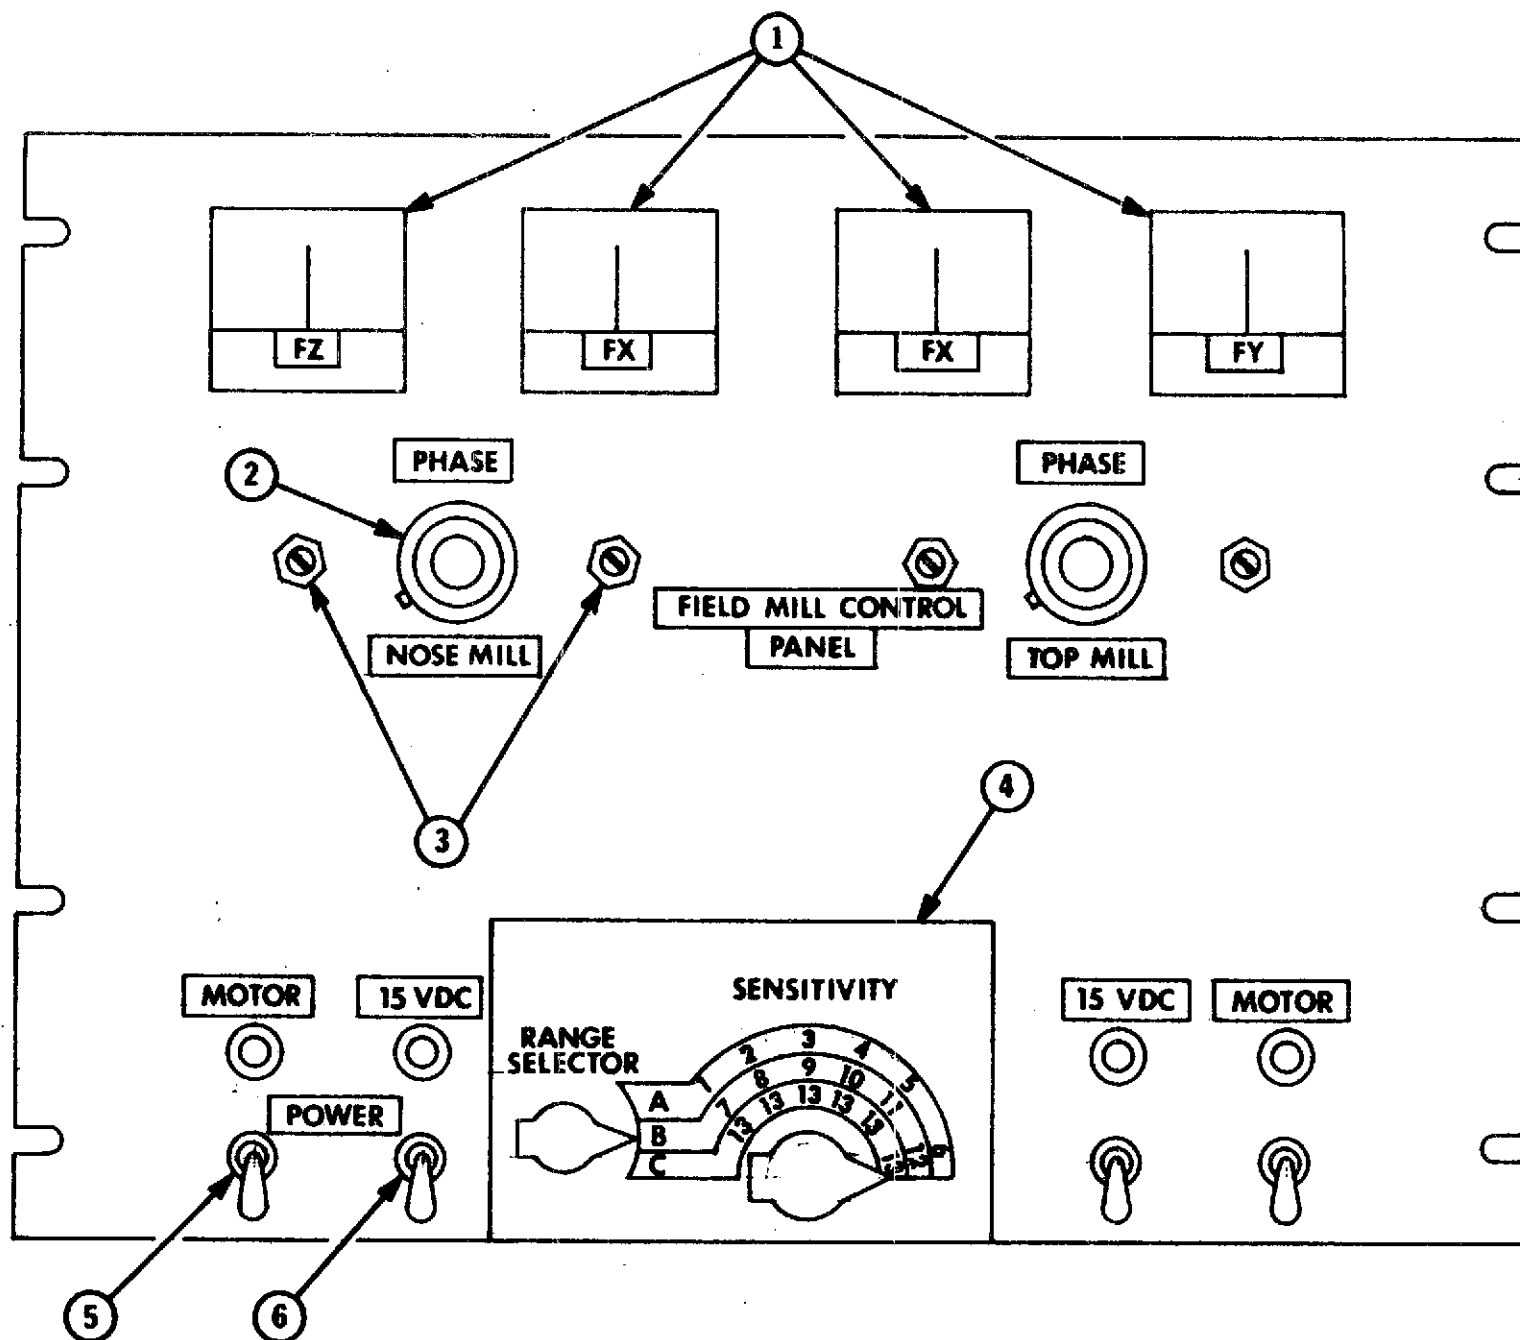

Figure 2-4. Field Mill Control Panel
2.5 FIELD MILL CONTROL PANEL (FIGURE 2-4)